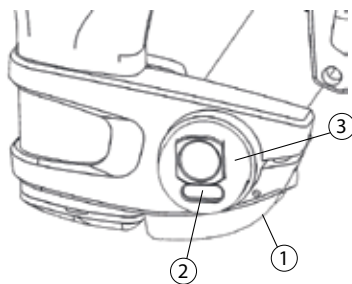

Fig. 27
- Loosen screw of the rear camber tube clamp (1) (Fig. 27) while keeping a bit of tension.
- Rotate the axle bushing (3) so that the flat spot is perpendicular to the ground.
- Tighten the screw of the rear camber tube clamp (1).